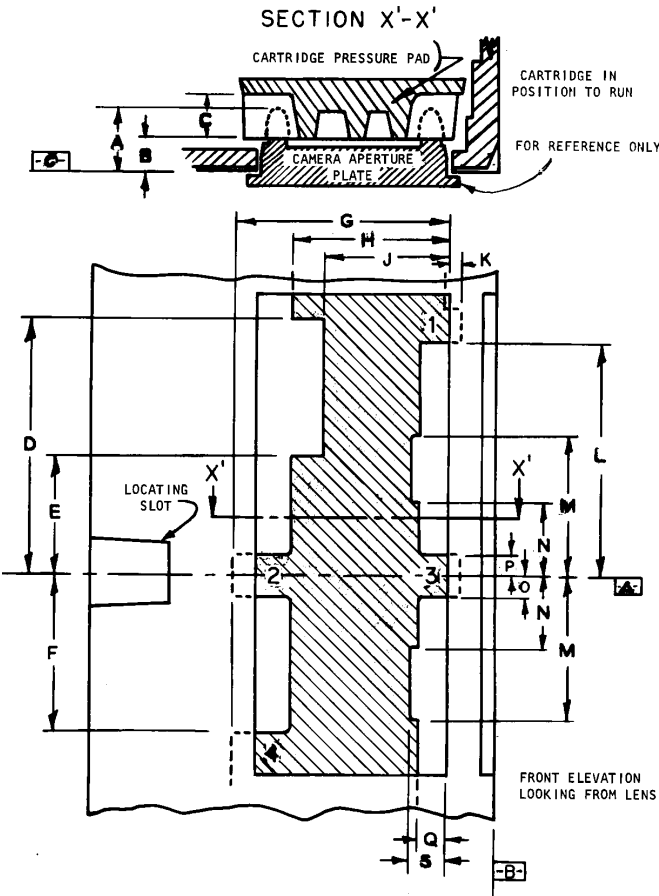

Figure 1 – Cartridge pressure pad
3.1 The dimensions shown in figure 2 and table 2 shall apply to an assembled cartridge with a film load at the time of manufacture. The dimensions shown in figures 1 and 3 and tables 1 and 3 shall apply to a cartridge that is fully assembled, but does not contain film.